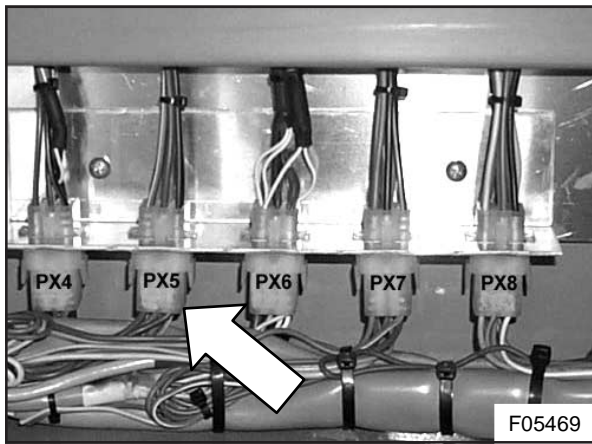

Figure 8 : Location of plug X5 on the HVAC switchboard
- 9) Connect terminal # 5 of the reheat cut-out temperature selector switch to terminal # 3 of plug X5 (blue/grey wire- see Figures 8 and 9).